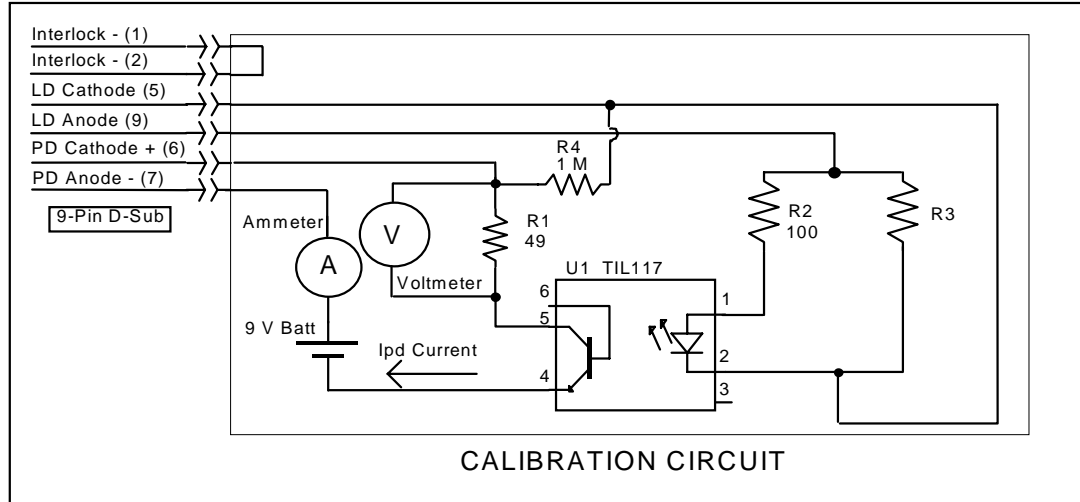

Figure 3.1  $I_{PD}$  Calibration Circuit
- 1 Select the LCM-39427/437 to be calibrated by pressing the appropriate (ADJUST) switch until the LAS indicator is orange. With the LASER output off, connect a calibrated ammeter to the PD Anode output of the LCM-39427/437, and connect the circuit of Figure 3.1 to the LASER and PD outputs.
If a calibrated ammeter (with 0.1  $\mu\text{A}$  resolution) is not available, place a calibrated DMM (with 0.1 mV resolution) to measure the voltage across the resistor, R1, as shown in Figure 3.1. Calculate the current in the following steps by using Ohm's Law:
- 1 With the LASER output off, connect a calibrated ammeter to the PD Anode output of the LCM-39427/437, and connect the circuit of Figure 3.1 to the LASER and PD outputs.
If a calibrated ammeter (with 0.1  $\mu$ A resolution) is not available, place a calibrated DMM (with 0.1 mV resolution) to measure the voltage across the resistor, R1, as shown in Figure 3.1. Calculate the current in the following steps by using Ohm's Law: